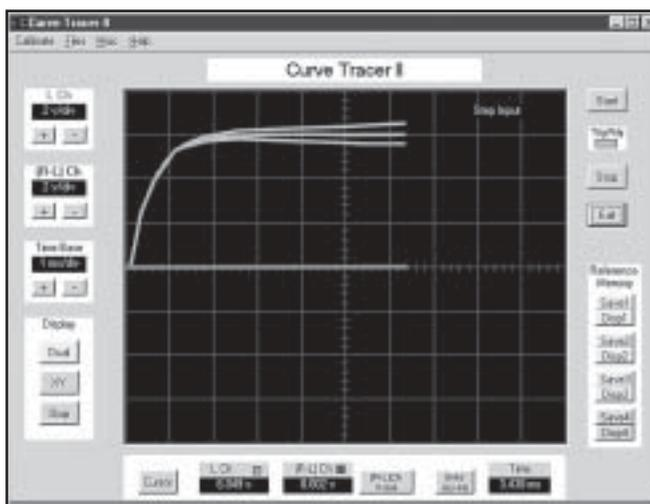

Figure 6 — The main window of the curve tracer program showing step voltage input.
remove the DUT. Next, set the jumper J1 on the circuit so that the step voltage is applied to Rm. Run the program. Click Start and wait for the TrigRdy LED to change from green to red. Now create the step voltage by closing switch S1 on the circuit. Upon capture of the step voltage data, the TrigRdy LED will revert to green. With S1 still closed, measure the step voltage at TP1 with a good voltmeter, preferably a digital type, and write it down. View the data captured by the program using the left cursor in *dual* mode. You should see a large step voltage on the left (L) channel (green) and a small voltage on the right minus left (R-L) channel (blue). See Figure 6 for an example. [The blue line on the computer screen is shown as a heavy horizontal line on Figure 6. — *Ed.*] The data should start out clean without much noise. If there is a lot of noise at the start of capture (probably due to S1 bounce), repeat the capture until it is clean.
See Figure 6 for an example of over, under and normal compensation. Make corrections in *very* small amounts. Use the cursor to verify it is straight by moving it across the waveform while looking at the readout.